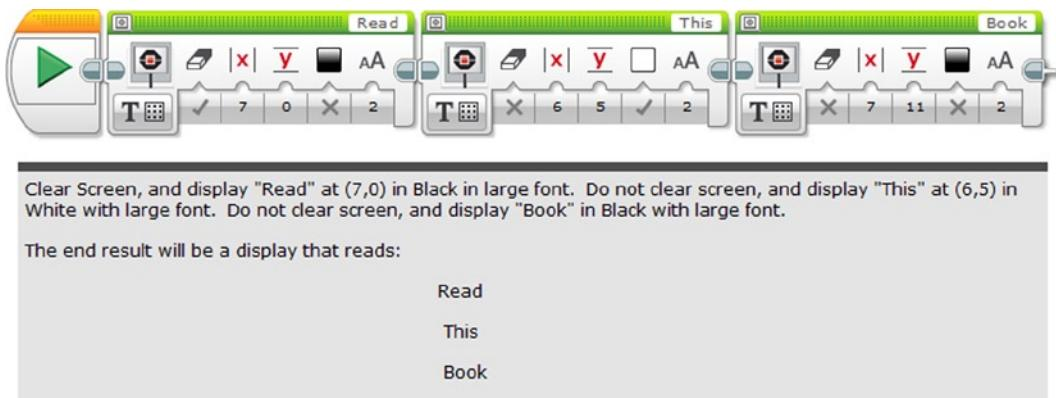

Figure 4-3. A way of displaying multiple lines using the Display programming blocks
Text allows you to create words, and the bar on the right-hand corner allows you to type in whatever text that you want to put on the EV3 Brick display, provided it fills only one line on the display preview. This is a maximum of 21 characters with the smallest font provided, and 11 characters with the largest. Unfortunately, the program does not allow you to do more than one line per Display programming block. If you want to have more than one line on the screen, see Figure 4-3.
- The first is the True and False option under the clear screen, which does exactly as it says. You may notice that it says “MINDSTORMS” and “Program” every time you run any program on the LEGO EV3 Brick. By setting the value to “Clear Screen True” you ensure that you don’t see the “MINDSTORMS Program” when you run your program. You can see this demonstrated in Examples A and C, which means that you will see exactly what is on the previews when you run the program. Example B will print the words on whatever is on the screen. The Clear Screen is also useful for when you want to have multiple lines on one display screen, as the example shows in Figure 4-3.